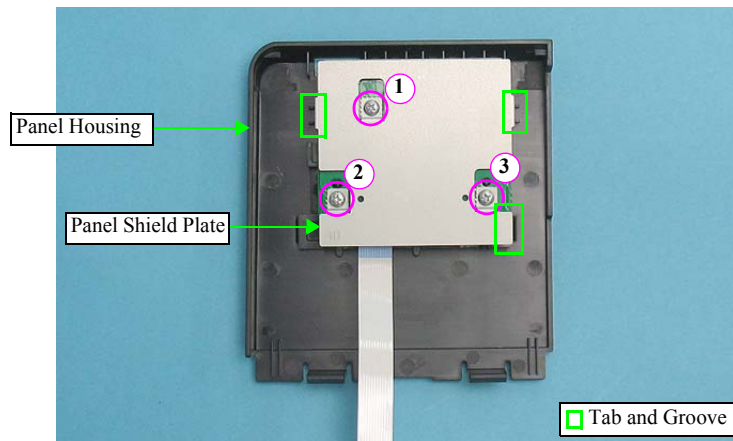
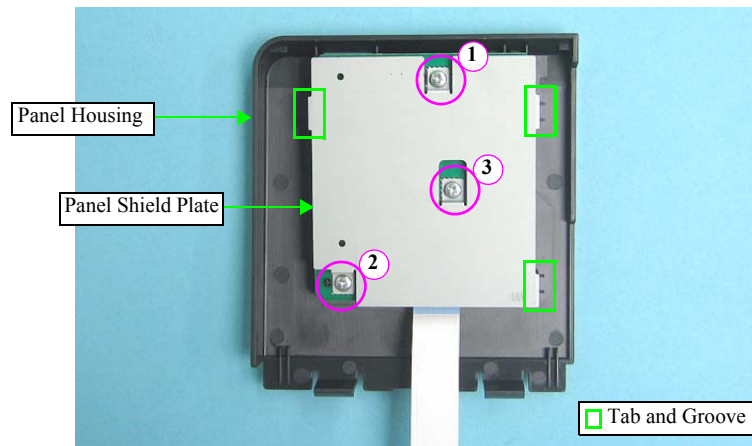

Figure 4-64. Removing the Panel Shield Plate. (B-300/B-308)
Figure 4-65. Removing the Panel Shield Plate.
- When attaching the Panel Shield Plate, insert the three tabs of the plate into the grooves on the Panel Housing as shown in Figure.4-64 & Figure.4-65. Then tighten the screws in the order indicated in Figure.4-64 & Figure.4-65.